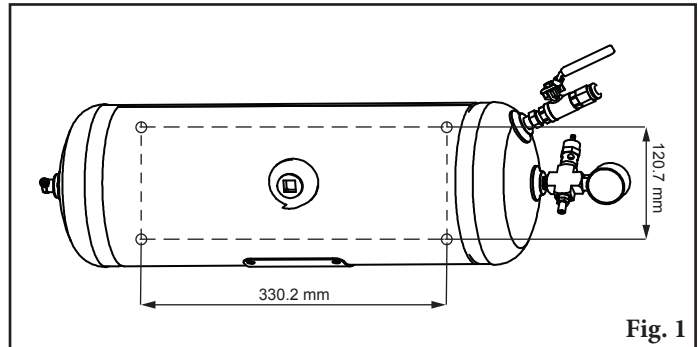

Fig. 1
1. **Mounting PAT Air Tank.** Find a sturdy/durable location to mount the tank vertically within 10' (3m) of the PAT Control panel(s). Drill four (4), Ø11mm holes on the holes centers show in Fig. 1, and secure the tank using four (4) M10 bolts. Position the tanks such that the pressure gauge can be easily read as well as accessing the isolation valve.